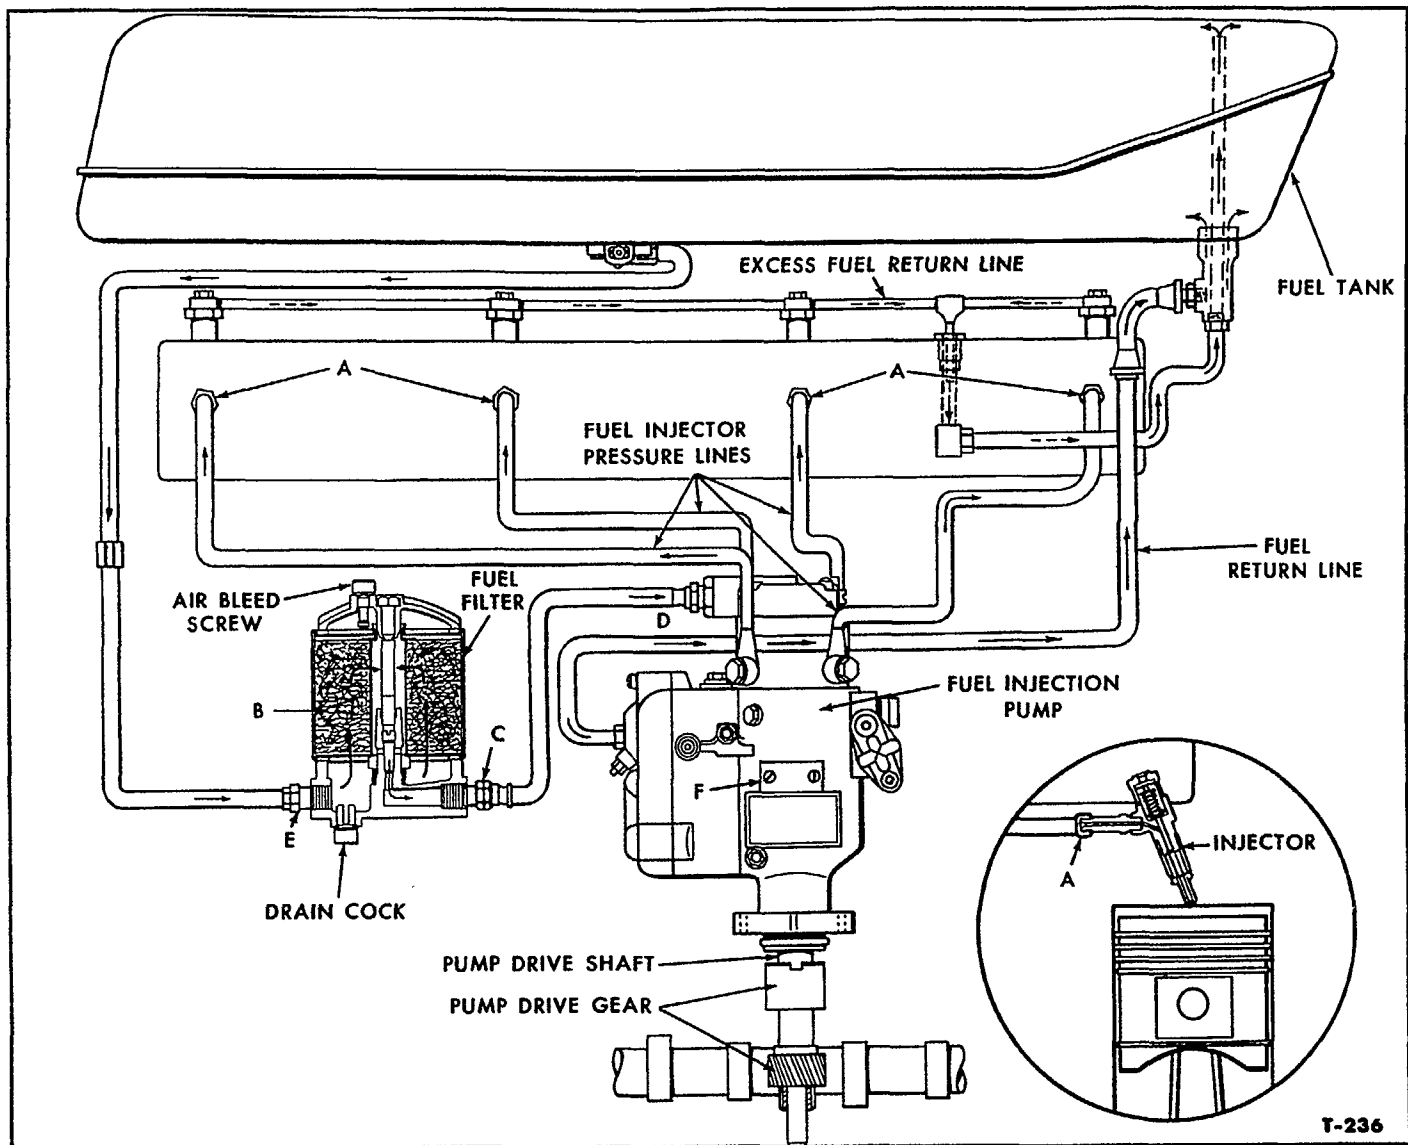

Figure 22—Diesel Fuel System
3. Disconnect the fuel line at (D), Figure 22. If fuel does not flow freely from the line, check for a clogged fuel filter or an obstructed line between this point and the tank. Make the necessary repairs, and bleed the fuel system.
4. If the engine still won't start, remove the timing inspection window cover (F) from the fuel injection pump. Crank the engine with the starter and observe the injection pump rotor. If the rotor does not turn, the pump drive shaft may be broken, or the pump drive gear and/or engine camshaft gears can be stripped, Figure 22. Make the necessary repairs and time the engine.
5. If the engine still will not start, loosen the nut (A) at each injector. Crank the engine with the starter to make sure that fuel is reaching the injectors. If fuel is reaching the injectors, remove them from the cylinder head and rebuild or replace them as required.
2. If bleeding the system does not correct the trouble disconnect the fuel line and check the flow of fuel at (D), see Figure 22. If the fuel does not flow freely, clean the obstruction from the lines or replace the fuel filter (B) as required.
1. Disconnect fuel line fitting (D), Figure 22, to make certain that an adequate supply of fuel is reaching the injection pump. If the fuel supply is insufficient, replace the fuel filter, bleed the lines or remove any obstructions that may be present.